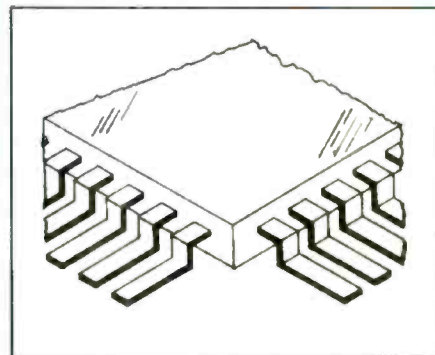

Figure 1. Solder should be evenly distributed between the upper and lower portion of the IC legs.
**Figure 1.** With through-hole components, desoldering, repair and replacement were fairly easy: get a desoldering gun or pencil and the right size tip to remove them, and a good iron to put in a new one.